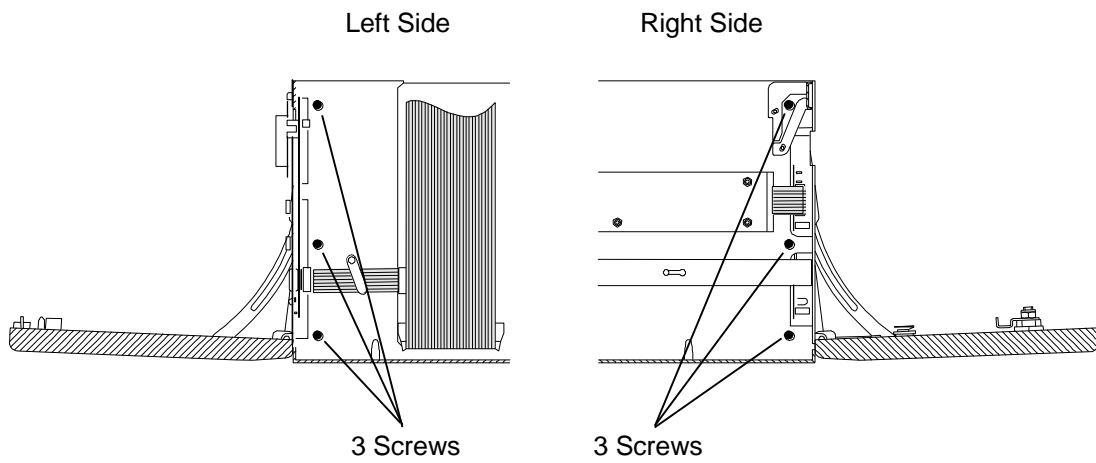

Figure 7-17 The Rack Mounting Bracket Screws
2. Use a No. 2 Phillips screwdriver to remove the three screws that secure both rack-mounting bracket to the sides of the RLS. See Figure 7-17.
3. Slide one of the rack mounting brackets along the side of the Library and align the three threaded holes in the bracket with the screw holes in the side of the library's chassis. Using a No. 2 Phillips screwdriver, install the three flat-head screws that were removed earlier. See Figure 7-17. Repeat for the other side.